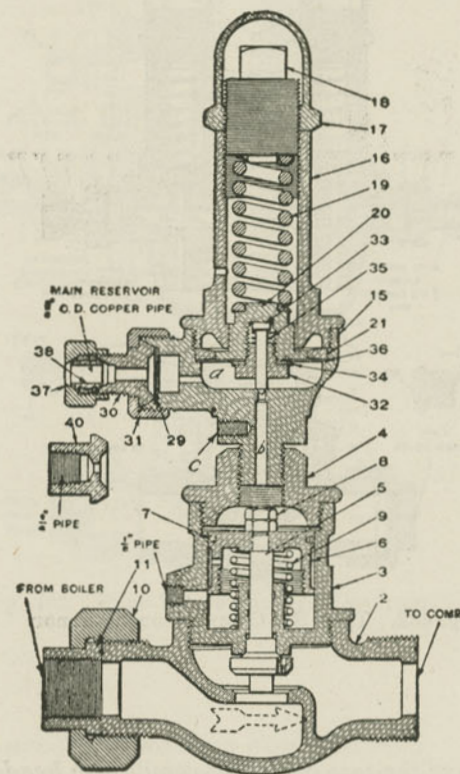

Fig. 431. The Single Pressure Compressor Governor.
A. Referring to Fig. 431, by the adjusting nut 18 regulating the tension of spring 19 on diaphragm 36.